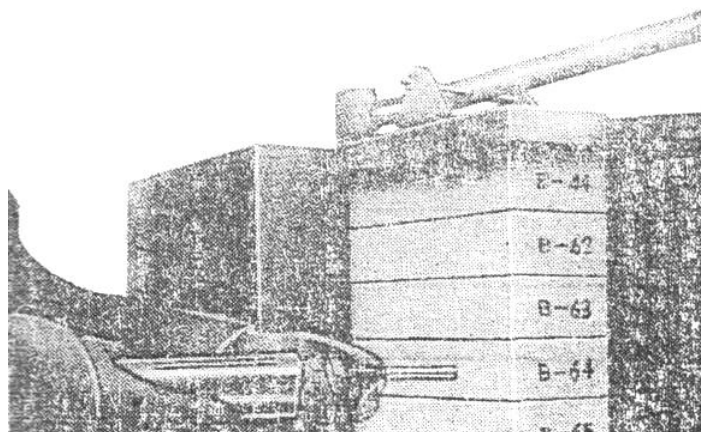

Figure 4
① 2 group samples total 10 pieces brick with Serial Number, fix one group sample on the brick pier, make sure their sides get good contact and fixed. Set wood plate and lever on sample as figure 4.
② Test and record rebound value. After testing five points in one side of the group, revolve the group sample and test the other side.
③ Test the other group sample.
④ Each test point only test once
- ① Each brick average rebound value formula is: $R_{mj} = \frac{1}{10} \sum_{i=1}^{10} R_i (j = 1, 2, \dots, 10)$